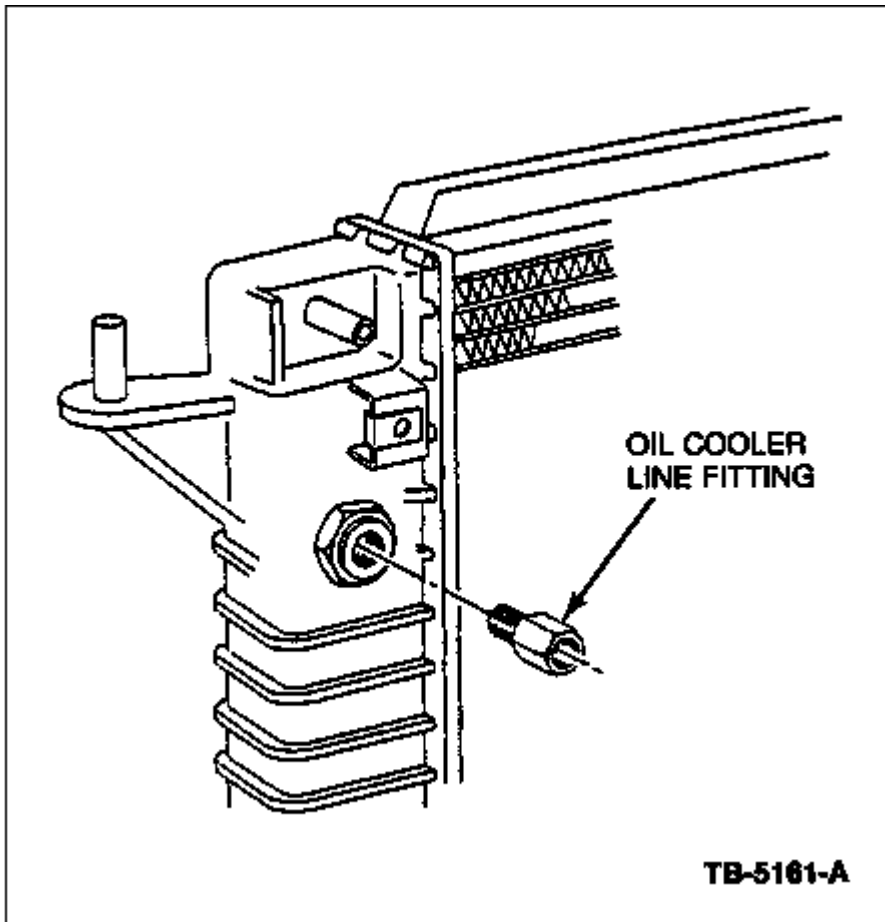

Figure 1 - Article 97-17-16
5. Remove the oil cooler line fitting (Figure 1).